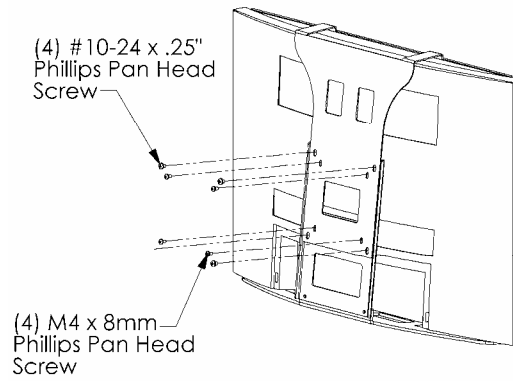

Figure 5
1. Assemble (4) 10-24 x .25" Phillips Pan Head Screws to 5" (outer holes) pattern on the adapter brackets as shown in Figure 5.